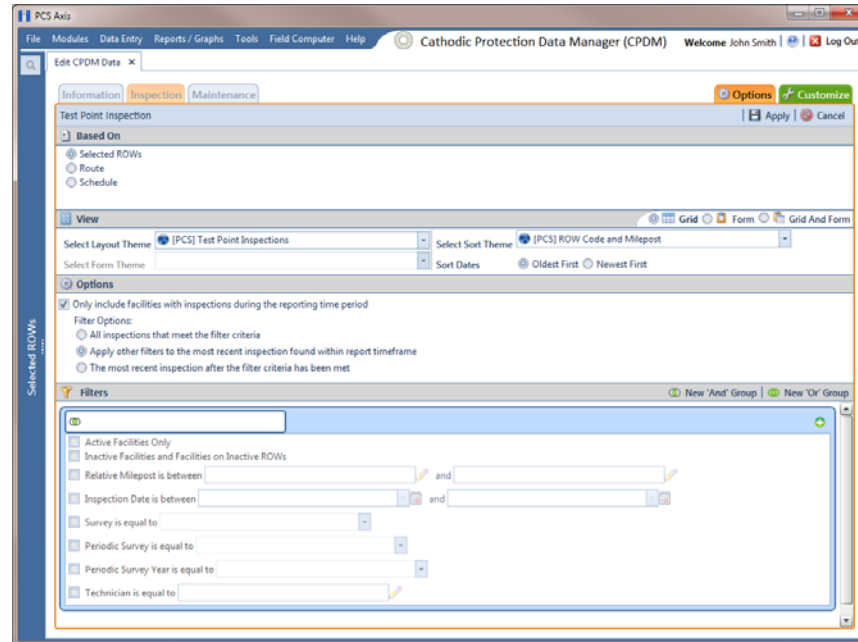

Figure 8-17. Options
- 6 Click  **Save**, then click the **Options** tab  to open the options page (Figure 8-17, page 367).